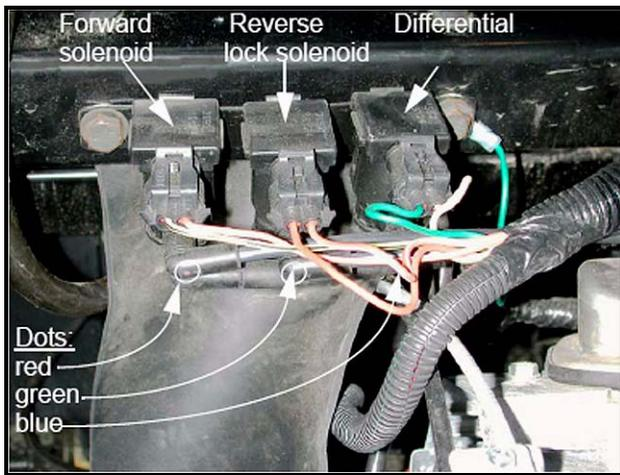

FIGURE 4
3. To provide access to the actuator solenoids, lift the cargo bed to the full open position. Locate the three actuator solenoids in the engine compartment on the cross member just behind the seats. See Figure 4.